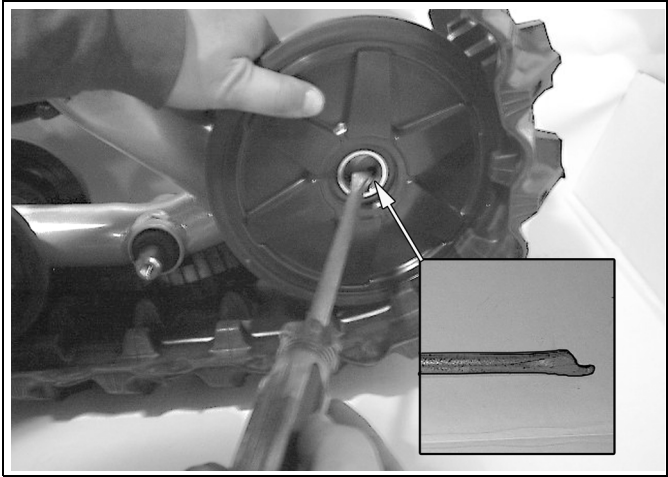

Figure 17
- If working on rear track systems, re-install the 5-in (132-mm) wheels (refer to Figure 17).